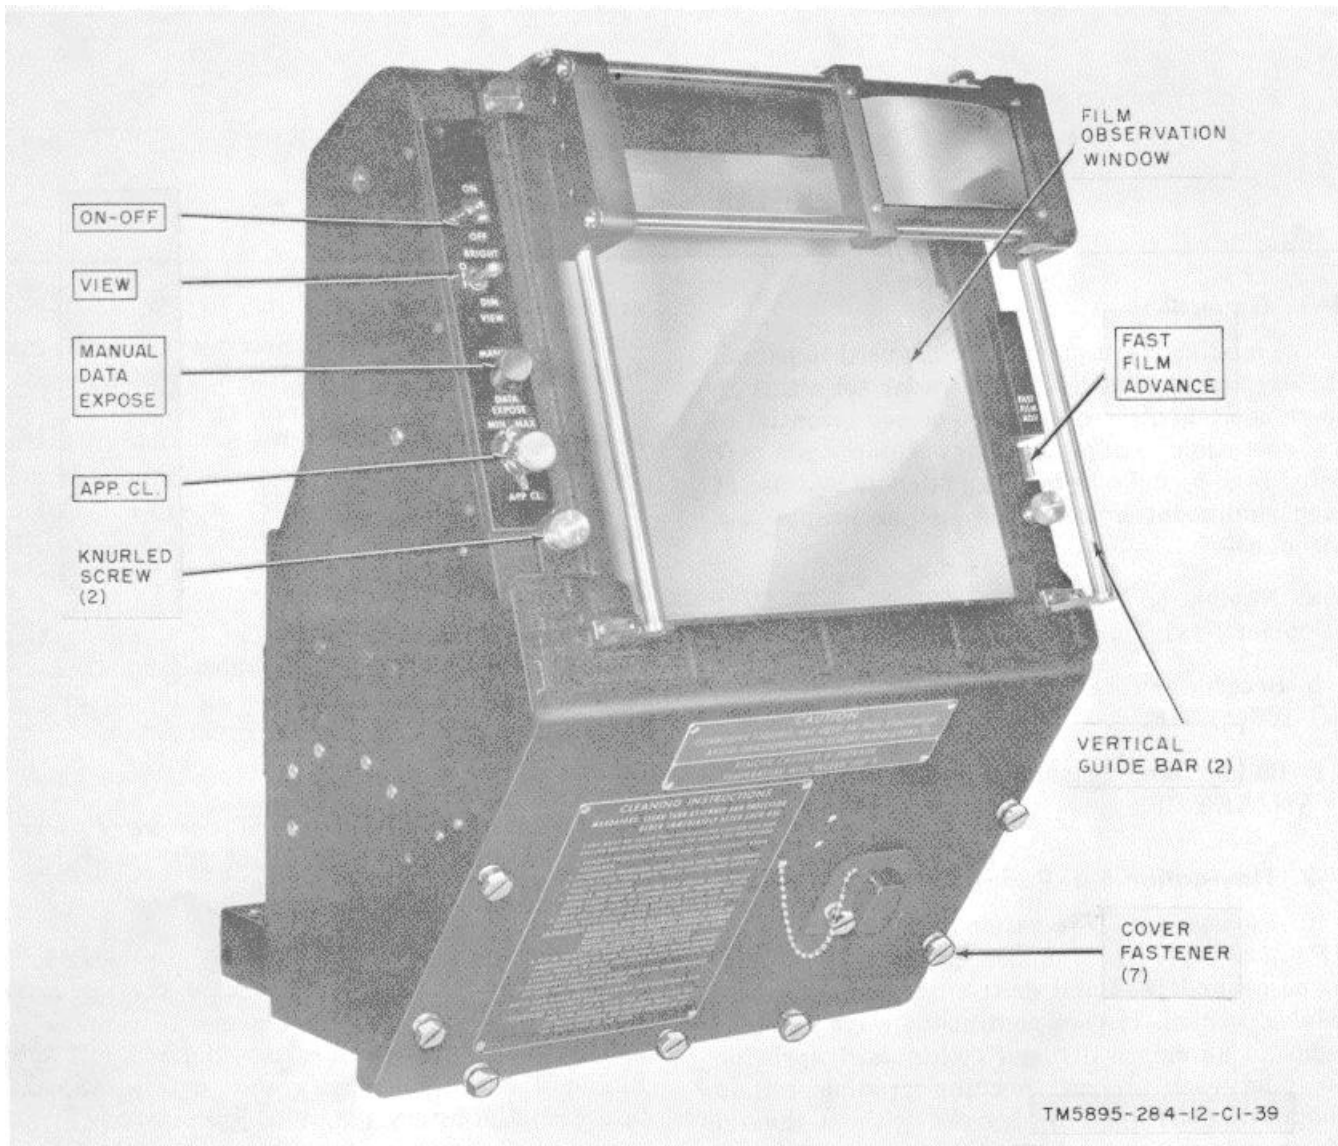
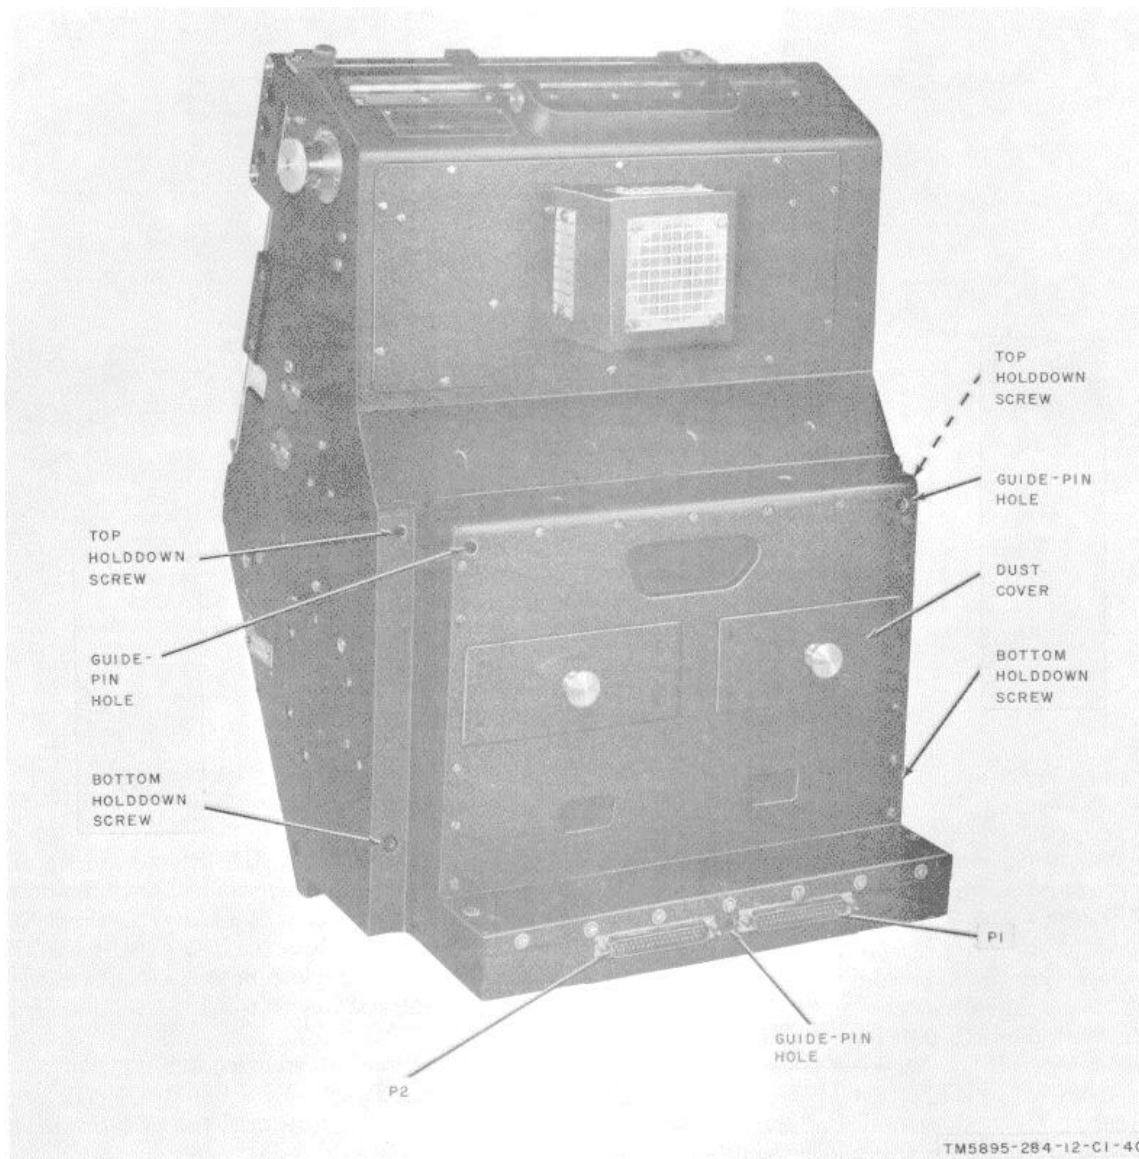
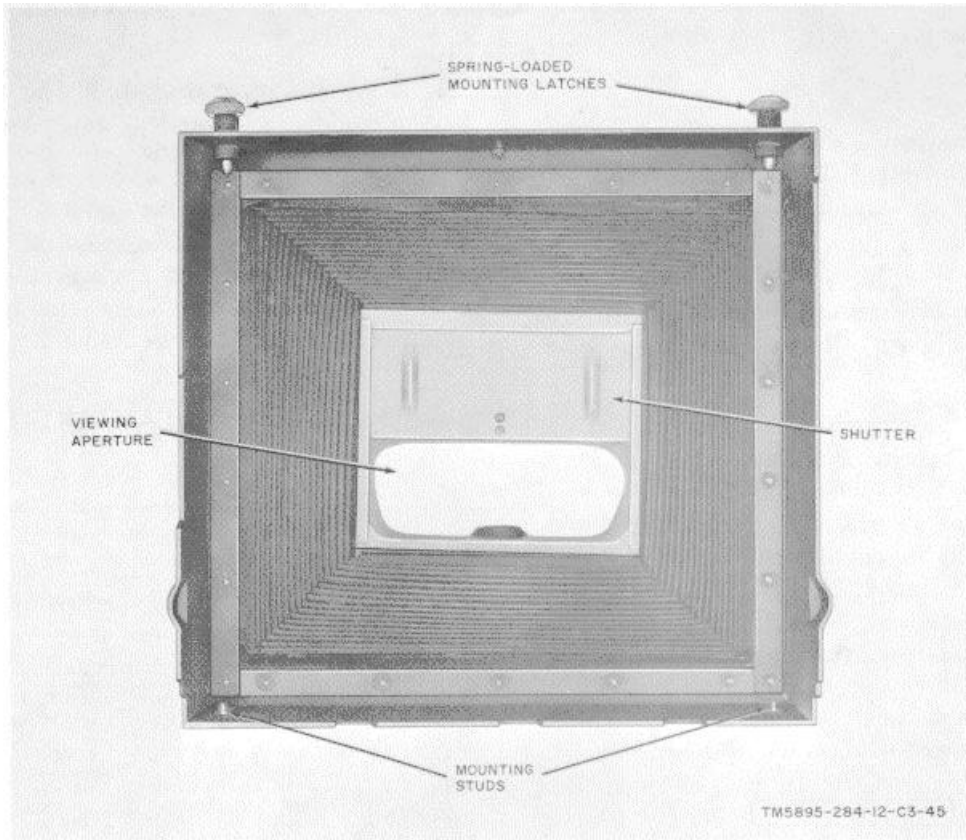

Figure 4-1. Recorder-Processor-Viewer, Radar Mapping RO-166(*)/UP.
Figure 4-2. Recorder-Processor-Viewer, Radar Mapping RO-166(*)/UP, rear view, parts location.
Figure 4-5. Processor-viewer, viewing hood, rear view.
4-3. Purpose of Recorder-Processor-Viewer, Radar Mapping RO-166(*)/UP (fig. 4-1)
4-4. Description of Recorder-Processor-Viewer, Radar Mapping RO-166(*)/UP (fig. 4-1 and 4-2)
The operating controls of the RO-166(*)/UP are on the right- and left-hand side of the upward sloping front control panel. The electrical and signal connectors are at the rear of the unit (P1 and P2, fig. 4-2). Further descriptive details are contained in the aircraft manual supplied with the radar set. Refer to paragraph 4-6 for instructions that depict the use of the three guide-pin holes and the two top and two bottom holddown screwholes (fig. 4-2) utilized in the installation of the RO-166(*)/UP onto the indicator of the radar set.
a. *RO-166(*)/UP Controls.* (fig. 4-1 and 4-2). The following chart lists the RO-166(*)/UP controls and indicates the function of each. These controls are used during the operation of the RO-166(*)/UP. Any control not mentioned here is covered in the aircraft manual for the radar set.
a. RO-166(*)/UP Controls (fig. 4-1 and 4-2) (cont).
(fig. 4-1 and 4-2)
a. Remove the bottom cover from the RO-166*/UP by loosening the seven cover fasteners (fig. 4-1) and lifting the cover off. Remove the dust covers at the rear of the RO-166*/UP (fig. 4-2).
b. Set the RO-166*/UP in place on the indicator. Make sure that the connectors (J6 and J7) on the indicator (fig. 1-7) mate with the connectors (P1 and P2) on the RO-166*/UP (fig. 4-2). There are guide pins on the indicator and guide-pin holes at the rear of the RO-166*/UP.
c. Loosen the two knurled screws that secure the top cover of the RO-166*/UP (fig. 4-1). Lift the top cover to expose the two top holding bolts (fig. 2-9).
- a. Insert the mounting studs (fig. 4-5) into the bottom ends of the vertical guide bars (fig. 4-1).